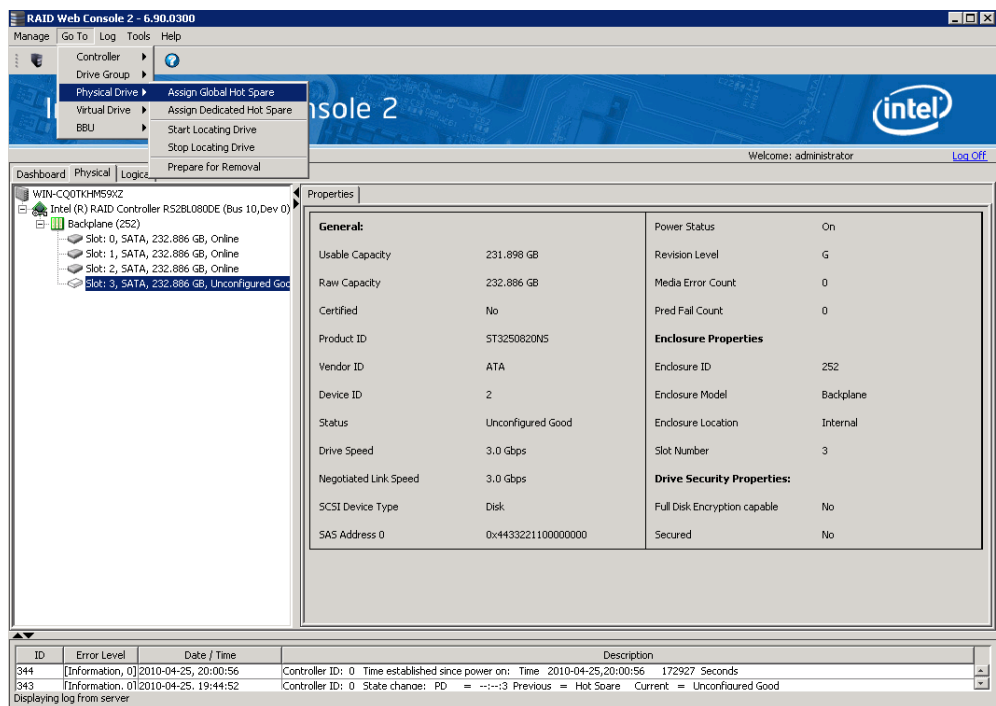

Figure 66. Assign Global Hotspare
2. In the Menu, click the **Go To -> Physical Drive** tab and select **Assign Global Hotspare**, as shown in Figure 66.